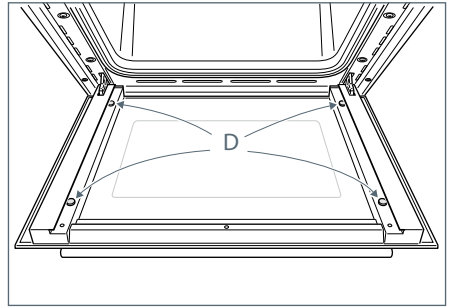

Fig.62a
- Check that the four rubber pads are in place ("D" in Fig. 62a).